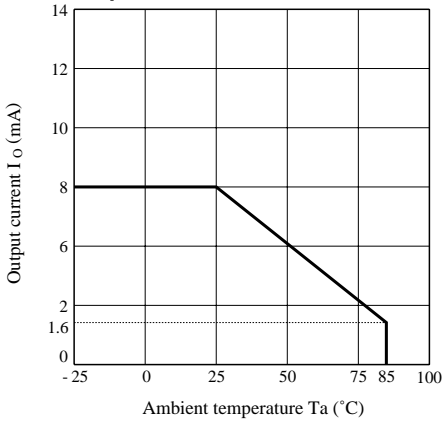

Fig. 2 Output Power Dissipation vs. Ambient Temperature
*2 Total power dissipation vs. ambient temperature : Per Fig. 2